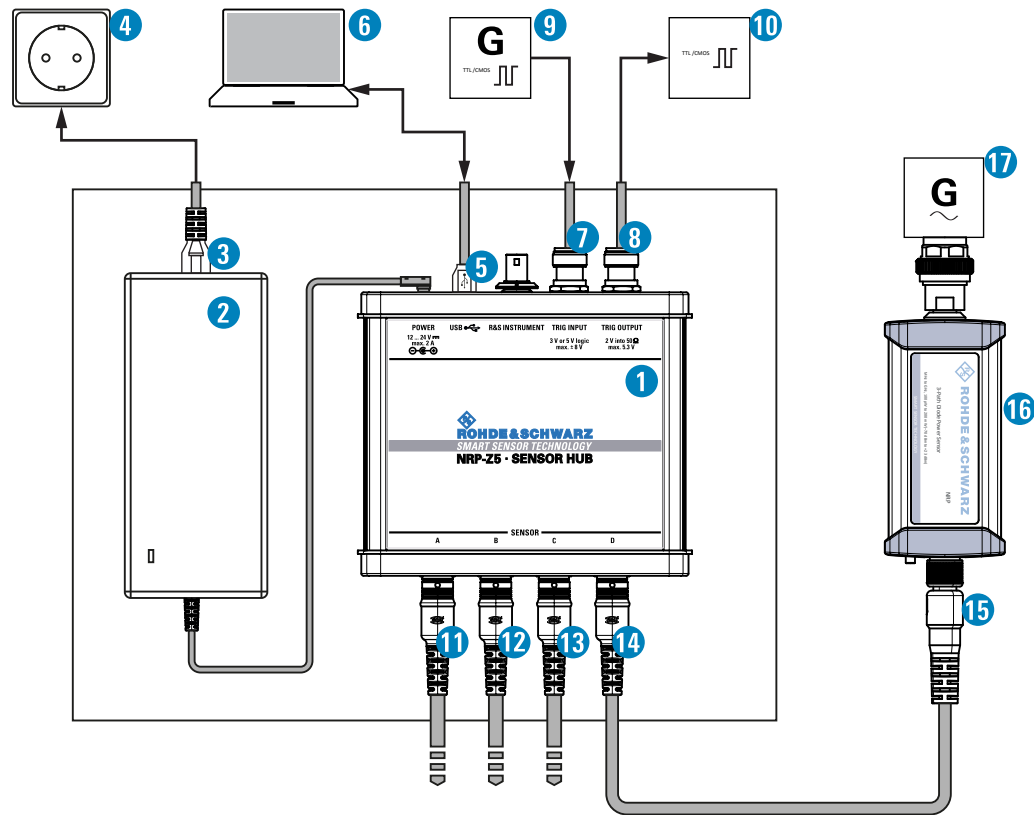

Figure 3-2: Setup with an R&S NRP-Z5 sensor hub
1. Connect the cables as shown in Figure 3-2: